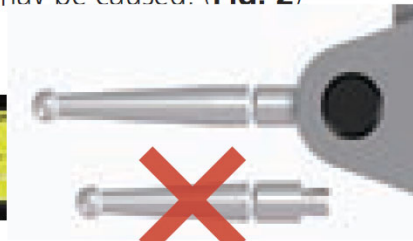

Fig. 2
3. Be sure to use the stylus with standard length according to models, otherwise a large measuring error may be caused. (**Fig. 2**)